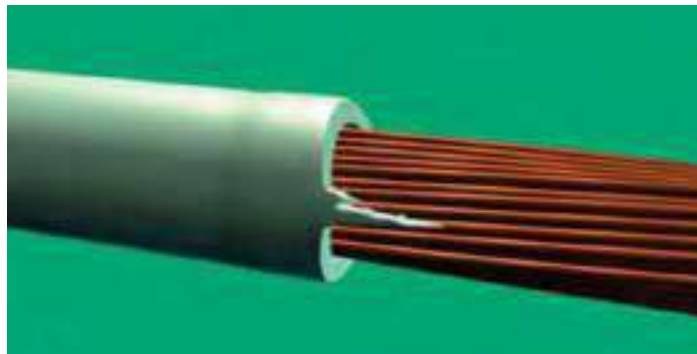

Figure 13
- b. Any uneven, ragged pieces (frays, tails, tags) (Figure 13) are no greater than 50% of the wire diameter or 0.039 inch (1 mm), whichever is greater.